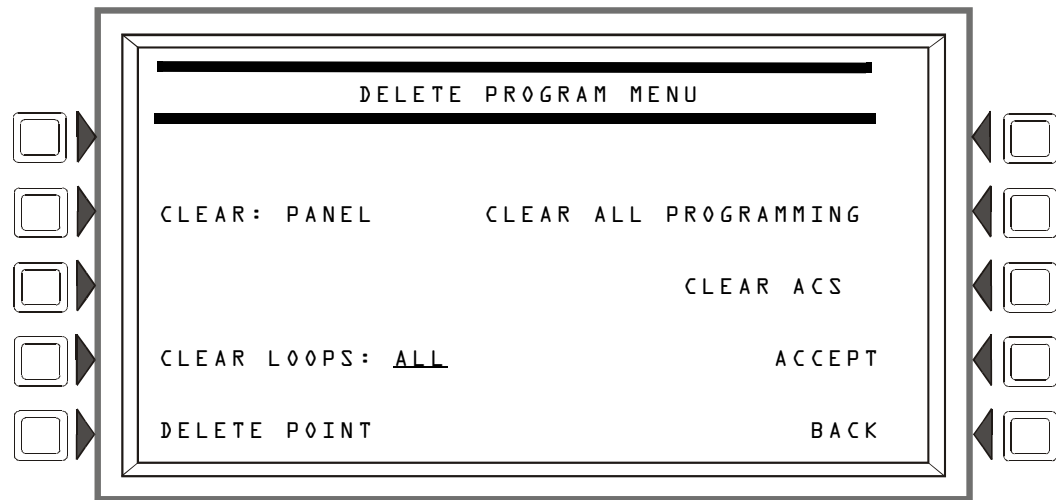

Figure 3.55 Delete Program Menu Screen
1. Use the Delete Program Menu screen (refer to Figure 3.55) to clear any applicable programming from the panel. For example, if loops one and two are to be autoprogrammed, clear the programming that exists by entering **1+2** at the Delete Program Menu screen.